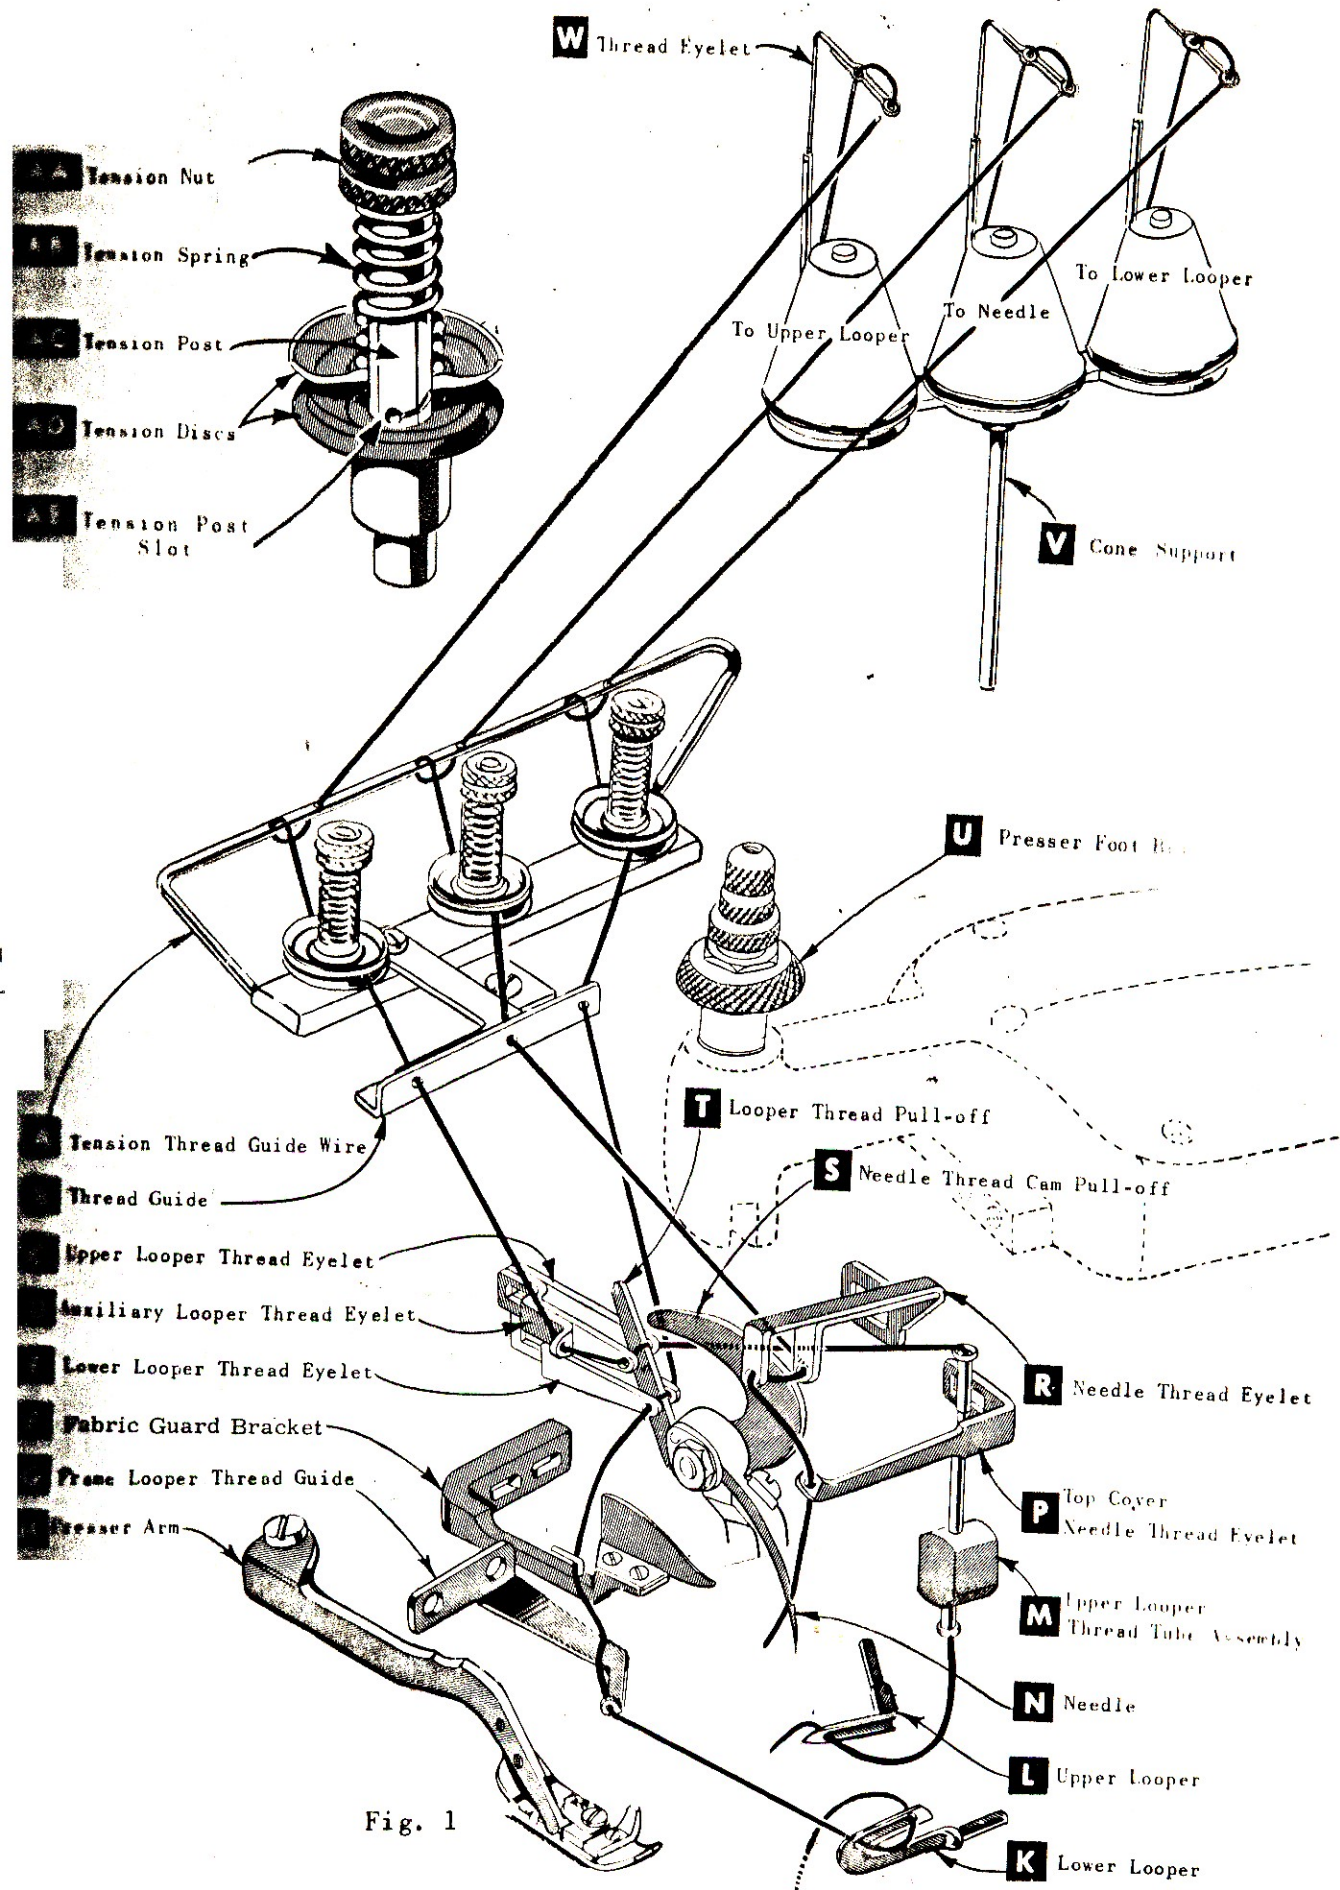

Fig. 1
Release pressure on presser foot by turning presser foot release bushing (U, Fig. 1) and swing presser arm (H) out of position. Turn handwheel in operating direction until needle is at its lowest point of travel. Using hexagonal socket wrench No. 21388 AS, furnished with machine, loosen needle clamp nut about 1/4 turn. Again turn handwheel until needle is at high position; withdraw needle.
After thread comes from cone on thread stand (V, Fig. 1), it is brought up through back thread eyelet, then down through front thread eyelet (W). Next it is threaded through each pair of holes in tension thread guide wire (A), down right hand hole and up through left hand hole. Then thread continues between tension discs (AD), through slot (AE), and on through thread guide (B).
Only parts involved in threading are shown in threading diagram (Fig. 1). Parts are placed in their relative positions for clarity.
Double end of thread and lead it through both eyes of lower looper thread eyelet (E, Fig. 1) from right to left. Note: thread must pass in front of looper thread pull-off (T). Lead thread behind fabric guard (F) and through both holes of frame looper thread guide (G). Turn handwheel in operating direction until heel of lower looper (K) is all the way to the left; then thread through both eyes from left to right. Left eye of lower looper can be threaded easily if tweezers are in left hand.
Turn handwheel in operating direction until needle (N, Fig. 1) is at highest position. Insert needle thread from right to left, through both eyes of needle thread eyelet (R), under neck of top cover casting; then down through hole in top cover needle thread eyelet (P). Thread needle from front.
The amount of tension on needle and looper threads is regulated by the knurled tension nuts (AA, Fig. 1). Tension on threads should be only enough to secure proper stitch formation.
Be sure machine is threaded according to threading diagram (Fig. 1, page 7). With thread tensions light, set looper thread eyelets (C & E) about horizontal and in the middle of their front to back locations. Operate machine slowly, without presser foot in place, to make sure that chain forms and moves off the tongue freely. Swing presser foot into position, insert material. Sew slowly.
While sewing on material, check needle thread control as follows: Usually all needle thread is drawn on needle down stroke. At top of needle stroke, thread should be just tight enough to feed chain off stitch tongue. Stitch tension should be pulled down slightly if excessive thread is pulled on the up stroke. With needle at bottom of stroke, position needle thread eyelet (R, Fig. 1) so that needle thread cam pull-off (S) just contacts needle thread.
With material under presser foot, set lower looper thread eyelet (E, Fig. 1) back far enough so thread is a little slack when looper thread pull-off (T) reaches its most rearward position. Looper thread pull-off (T) is set about 1/8 inch distance behind needle thread cam pull-off (S). Frame looper thread guide (G) should be set with its left hand eyelet approximately 1/8 inch right of lower looper (K) heel eyelet at the time lower looper is at extreme left end of its travel.
Before proceeding to adjust upper looper thread eyelet (C, Fig. 1) adjust all three tensions to give a normal appearing stitch. Moderate change in these tensions will not markedly effect the purl.
To move the purl more under the edge, both looper thread eyelets (C & E, Fig. 1) should be raised keeping the same amount of pull-off. Usually it is better to have slightly more pull-off on upper thread than on lower thread.